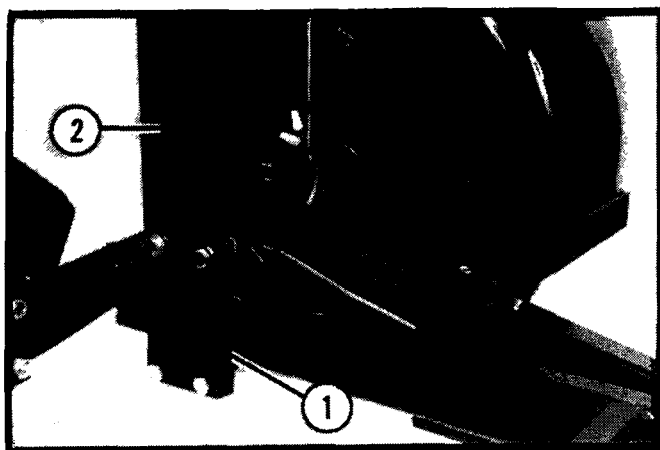

Figure 13
1. Using four 5/16-18 x 1 1/4" screws and locknuts, attach the mounting masts to the rear mounting tabs on the trailer frame. The tabs on the left mounting mast face outward. The slotted bolt holes on the masts will be toward the rear. Secure masts to the mounting tabs (See Figure 13).